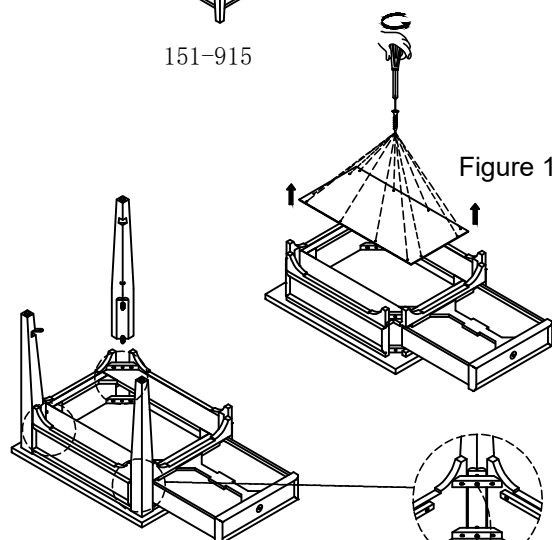

Figure 1
1. Turn the table top upside down on to a clean, soft surface. Pull out the drawer and remove the dust panel drawer bottom. (See Figure 1).